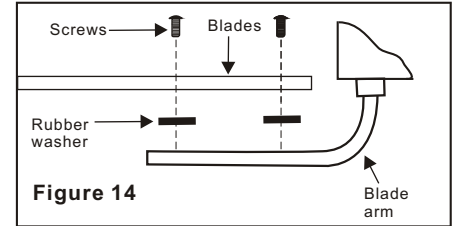

Figure 14
Step 1 Attach blades to blade arms using screws and rubber washers as shown in Figure 14. Start a screw into the blade arms, do not tighten. Repeat for the remaining screws and washers.